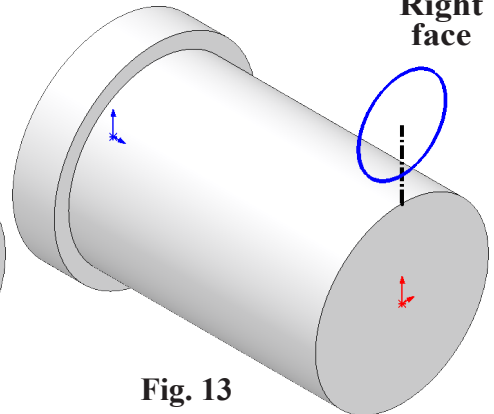
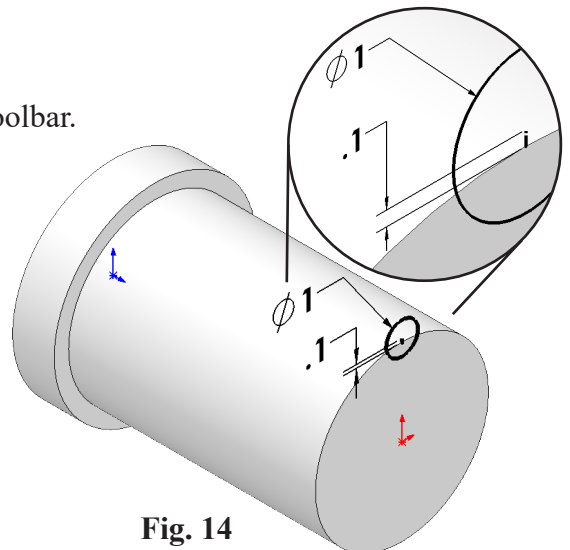

Fig. 13
Fig. 14
Step 6. Sketch **circle at top endpoint of centerline**, Fig. 13.
Step 7. Click **Smart Dimension**  (S) on the Sketch toolbar.
Step 8. Dimensions **diameter 1 and centerline .1**, Fig. 14.